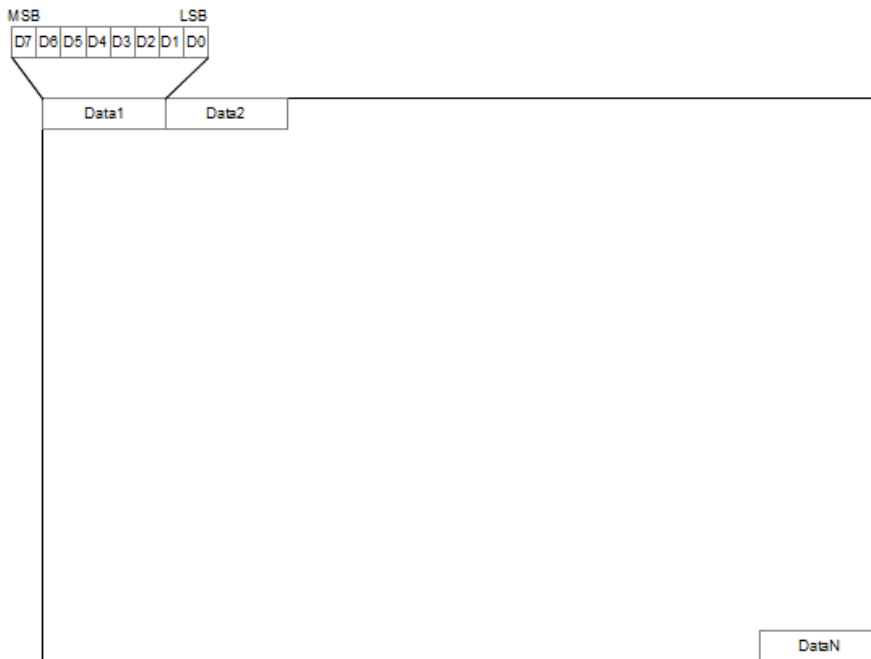

Figure 3. Display pixel locations on image data mapping.
- (1) First bits of first row
- (2) Last bits of last row. $N = (\text{Number of rows}/8) * \text{Number of columns}$
- (3) Pixels are going from left to right from top to bottom. A first pixel in a byte is the most significant one. See Figure 3. for reference